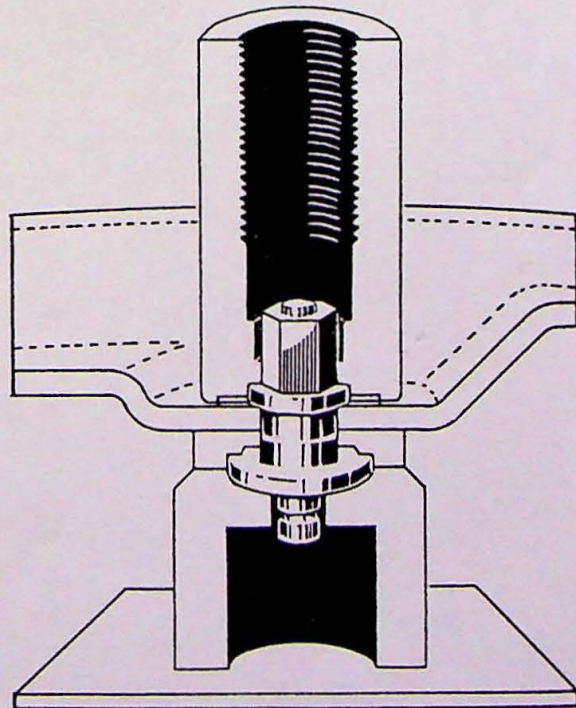

Fig. 24.
3. Invert the tool and centre it on the bolt. Check that it comes in line with the bolt. Stake with the tool, see Fig. 24. Stop staking when a maximum pressure of 8 tons is reached. Twist the tool and check that the bolt does not move too easily. If this should be the case apply a little more pressure.